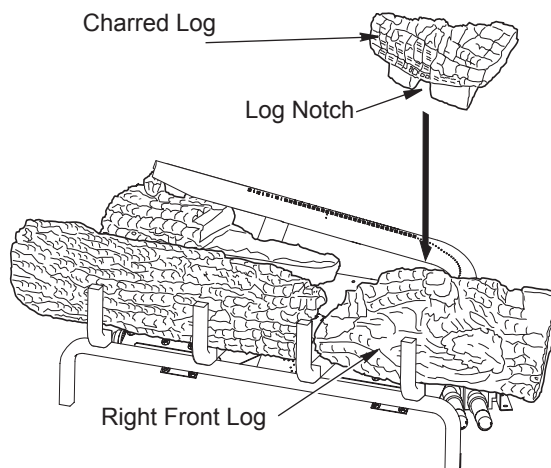

Figure 20 - Installing Charred Log
4. Find the charred log (D-020). See Figures 20, 20A, and 20B. The log has a slot in the bottom that fits over the square grate and rests against the burner tube as shown in Figure 20. Place this log on the base as shown in figures.